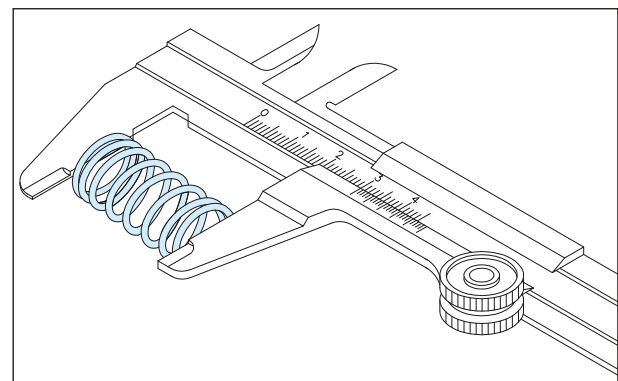

Fig. 3.121
- Measure the free length of the inner and outer springs. (Fig. 3.121)